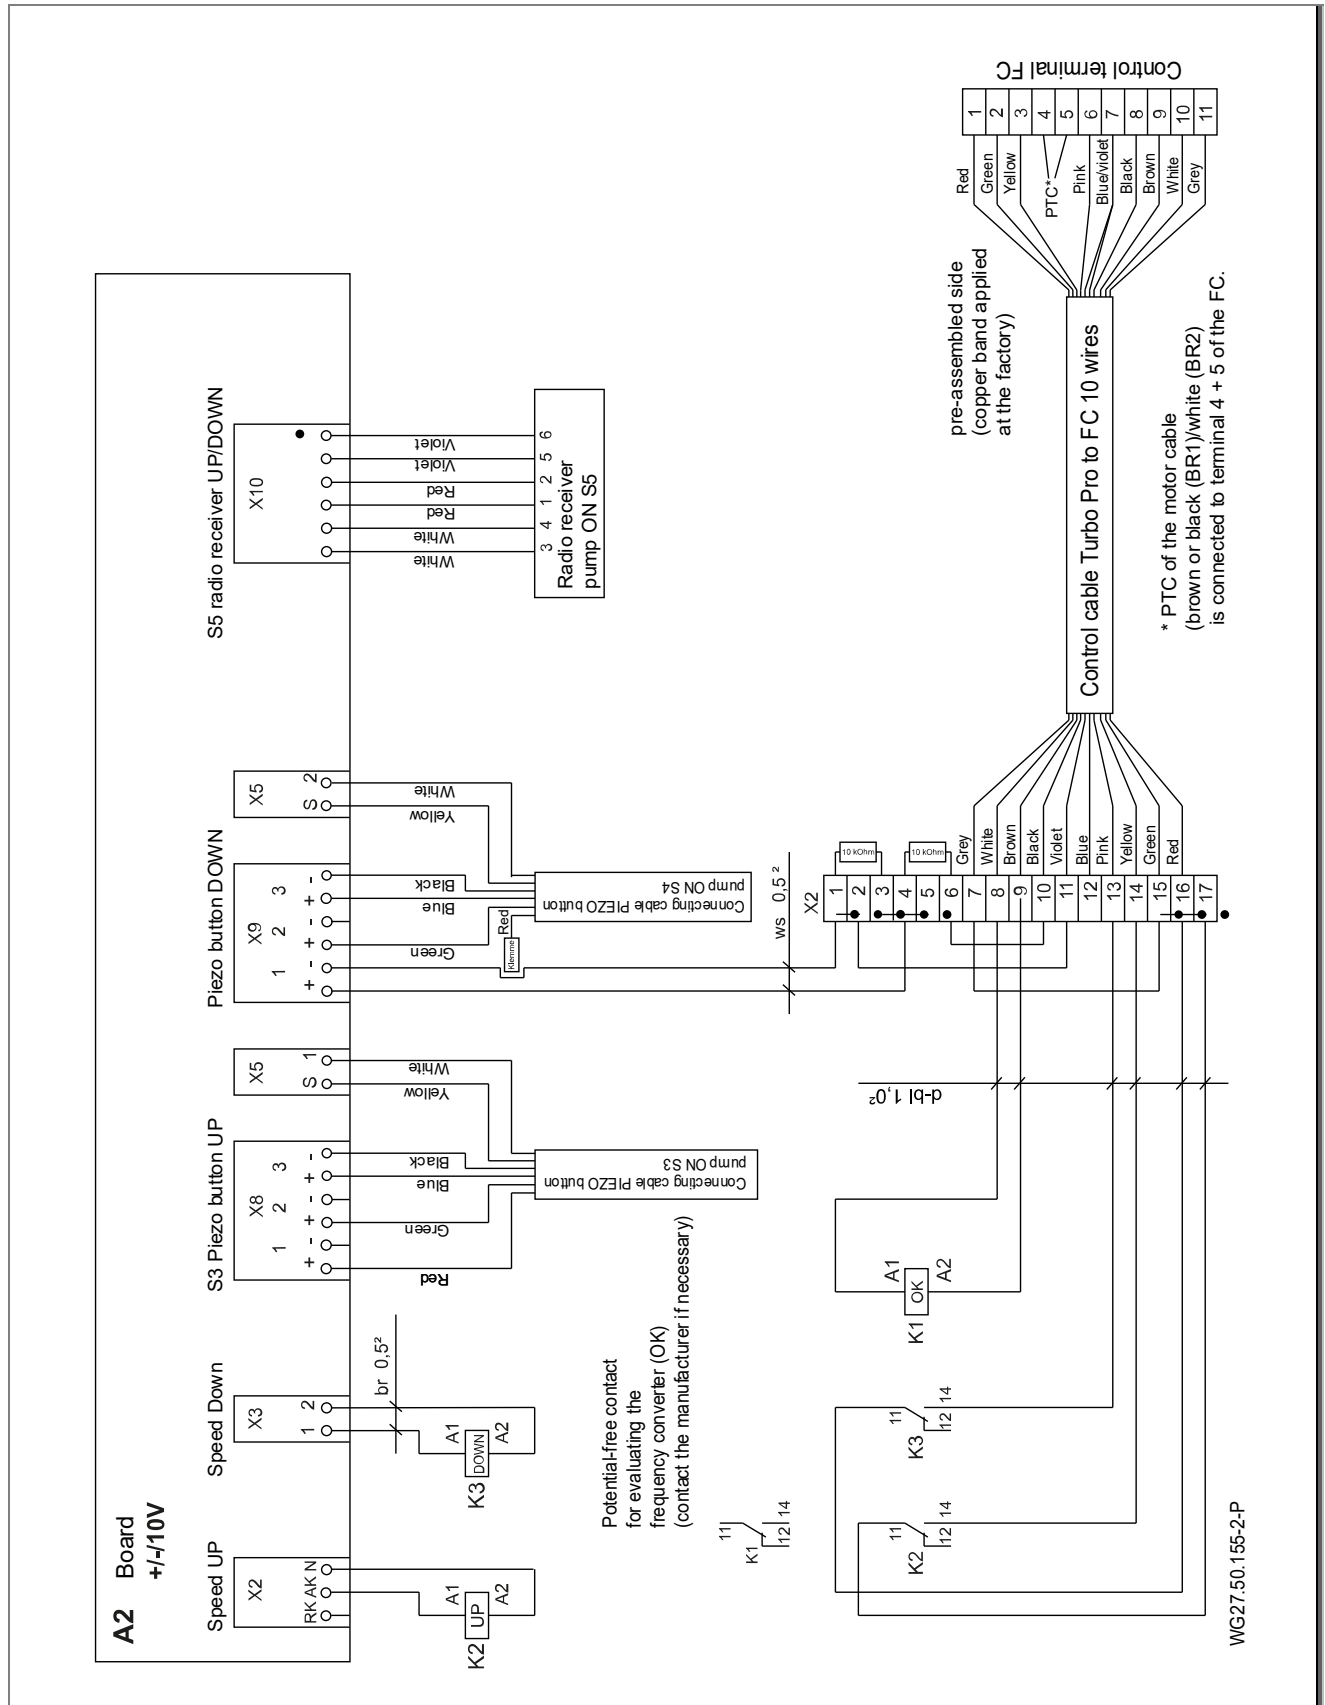

Fig. 20
14. The wires for the PTC (brown or black (BR1)/white (BR2)) must be connected according to the circuit diagram. See "Fig. 20" on page 26.